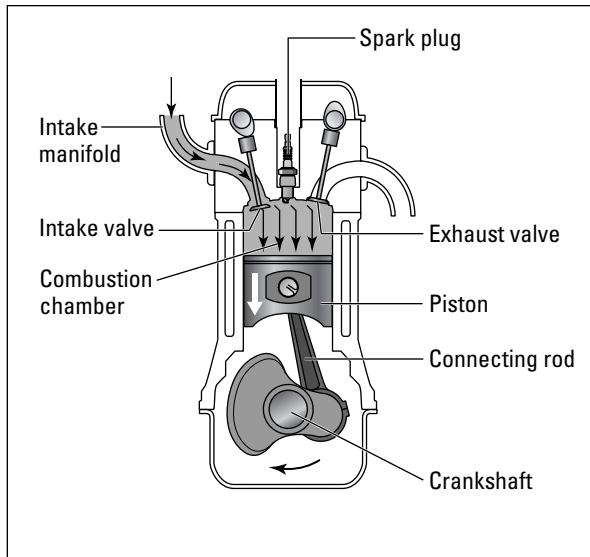

Figure 7-11: The intake stroke.
1. **Intake stroke:** See Figure 7-11. When the piston moves *down*, it creates a vacuum in the top portion of the cylinder (where the piston was at the end of its last upstroke). Air can't get in from the bottom of the cylinder because the rings on the piston seal it off. Then the ***intake valves***, conveniently located in the cylinder head, open up and let the ***fuel/air mixture*** into the cylinder. This mixture rushes in to fill the vacuum left by the piston.